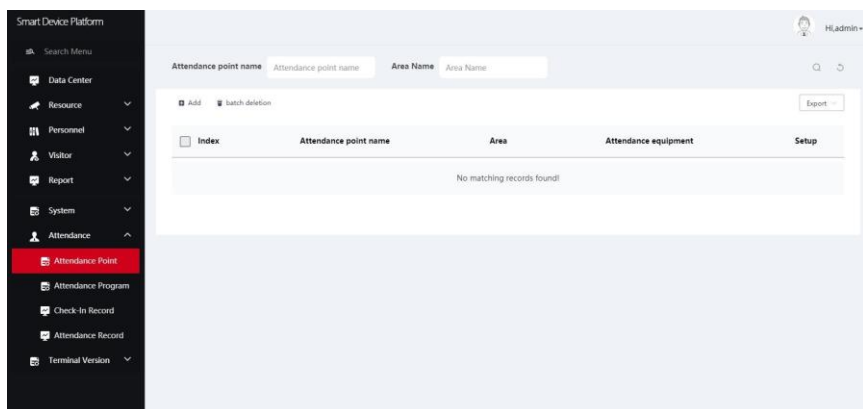

Figure 5-84
Step 1: In the smart device platform interface, click "Attendance→Attendance Point" to enter the Attendance point interface, as shown in Figure 5-84.